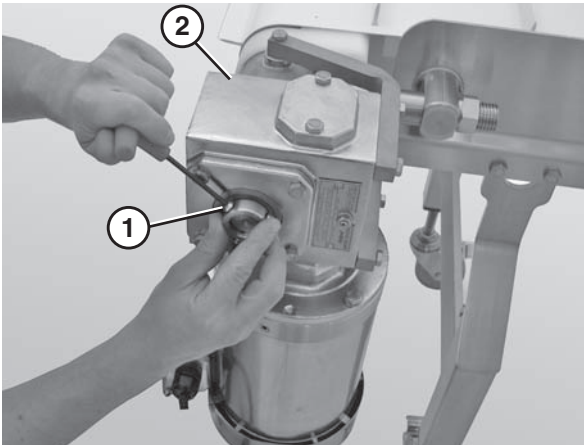

Figure 57
2. Use a 5 mm hex wrench to loosen the outside button head screws (**Figure 57, item 1**) and the inside button head screws (**Figure 57, item 2**) that connect the gearmotor to the drive spindle.